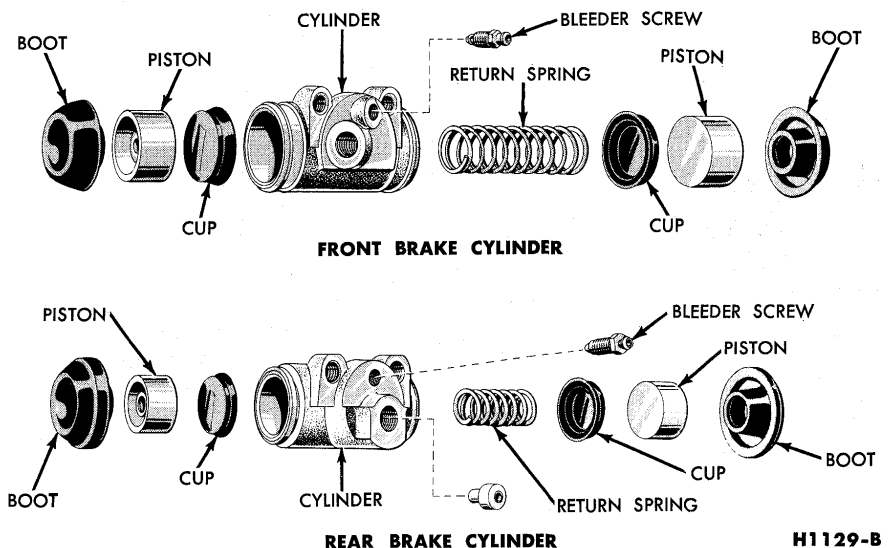

FIG. 8—Front and Rear Wheel Cylinders
1. Remove the rubber boots (Fig. 8). Remove the pistons, cups, and return spring from the cylinder bore.
3. Insert the return spring, cups, and pistons (Fig. 8) in their respective positions in the cylinder bore. Place a boot over each end of the cylinder.